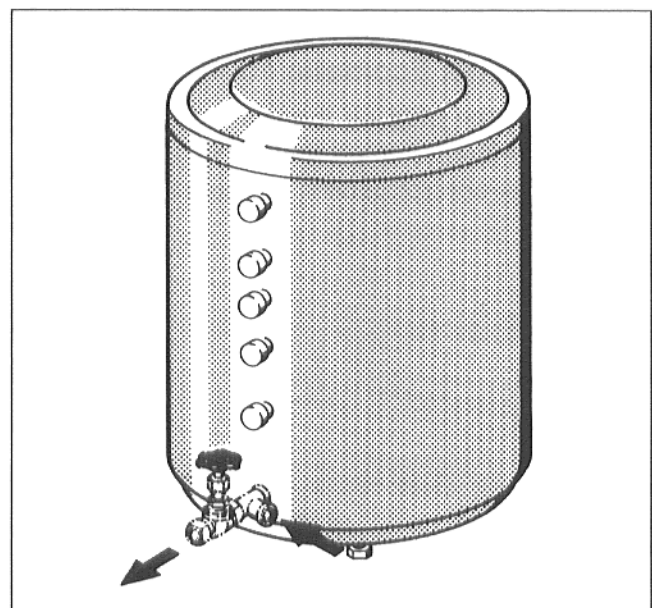

Fig. 11
- Shut off cold water supply, open storage tank drainage (EL). To vent air, open a venting tap in a high position (Fig. 11).